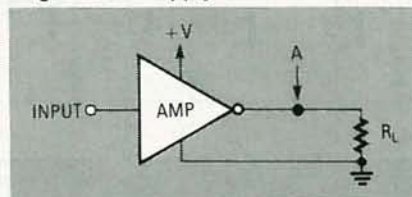
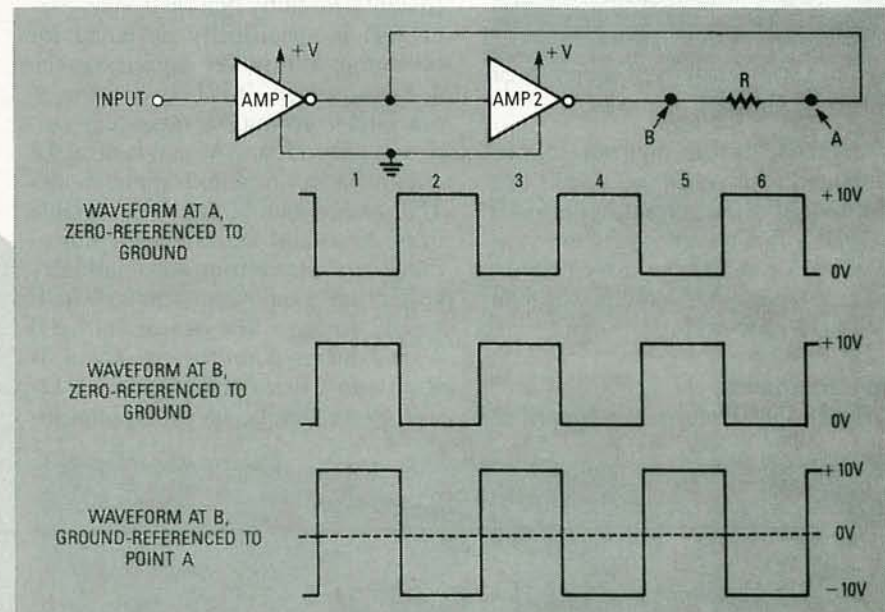

FIG. 6—AN AMPLIFIER CONNECTED in the single-ended output mode gives a peak output of  $V^2/R$  watts.
FIG. 7—A PAIR OF AMPLIFIERS connected in the bridge configuration gives a peak output of  $2V^2/R$  watts; four times the power of a single-ended circuit.
**FIG. 7—LITHIUM CELLS** have extremely high energy densities. The button-style packaging shown in *a* provides a large electrode area. Three 3-volt lithium cells are connected in series to make a 9-volt transistor-type battery (*b*).
The internal details of a typical nickel-cadmium cell are shown in Fig. 6. The active materials are nickel oxide (NiO), which forms the cell's
Although there are a number of lithium-cell formulations, the one using lithium, manganese dioxide ( $MnO_2$ ) and a lithium perchlorate ( $LiClO_4$ ) electrolyte in an organic solvent (water cannot be used, remember) makes up about 70 percent of the lithium-cell market. Carbon monofluoride is also used. Much of the remaining portion consists of cells made using a lithium-carbon-thionyl chloride ( $SOCl_2$ ) formulation. Figure 7-a shows the construction of a typical lithium “button” cell; Fig. 7-b shows how Kodak combines three manganese-dioxide-type lithium cells in one package to produce a nine-volt, “transistor-type” battery.
tion of Fig. 6, the peak available output power equals  $V^2/R$ , where "V" is the peak available output voltage. Note, however, that the available output power can be increased by a factor of four by connecting a pair of amplifier IC's in the "bridge" configuration shown in Fig. 7, in which the peak available load power equals  $2V^2/R$ . That power increase can be explained as follows:
In the single-ended amplifier circuit of Fig. 6, one end of  $R_L$  is grounded, so the peak voltage across  $R_L$  equals the voltage at point A. On the other hand, in the circuit in Fig. 7, both ends of  $R_L$  are "floating" and are driven out of phase; and the voltage across  $R_L$  equals the difference between points A and B. Figure 7 also shows some waveforms when the circuit is fed with a 10-volt p-p square wave. Although the waveforms at points A and B have peaks of 10 volts relative to ground, the two signals are 180° out of phase. Therefore, during period 1, point B is 10-volts positive with respect to point A. Consequently, if point A is regarded as the reference point, it can be seen that the point B varies from +10 to -10 volts between periods 1 and 2, giving a total swing of 20 volts across  $R_L$ .